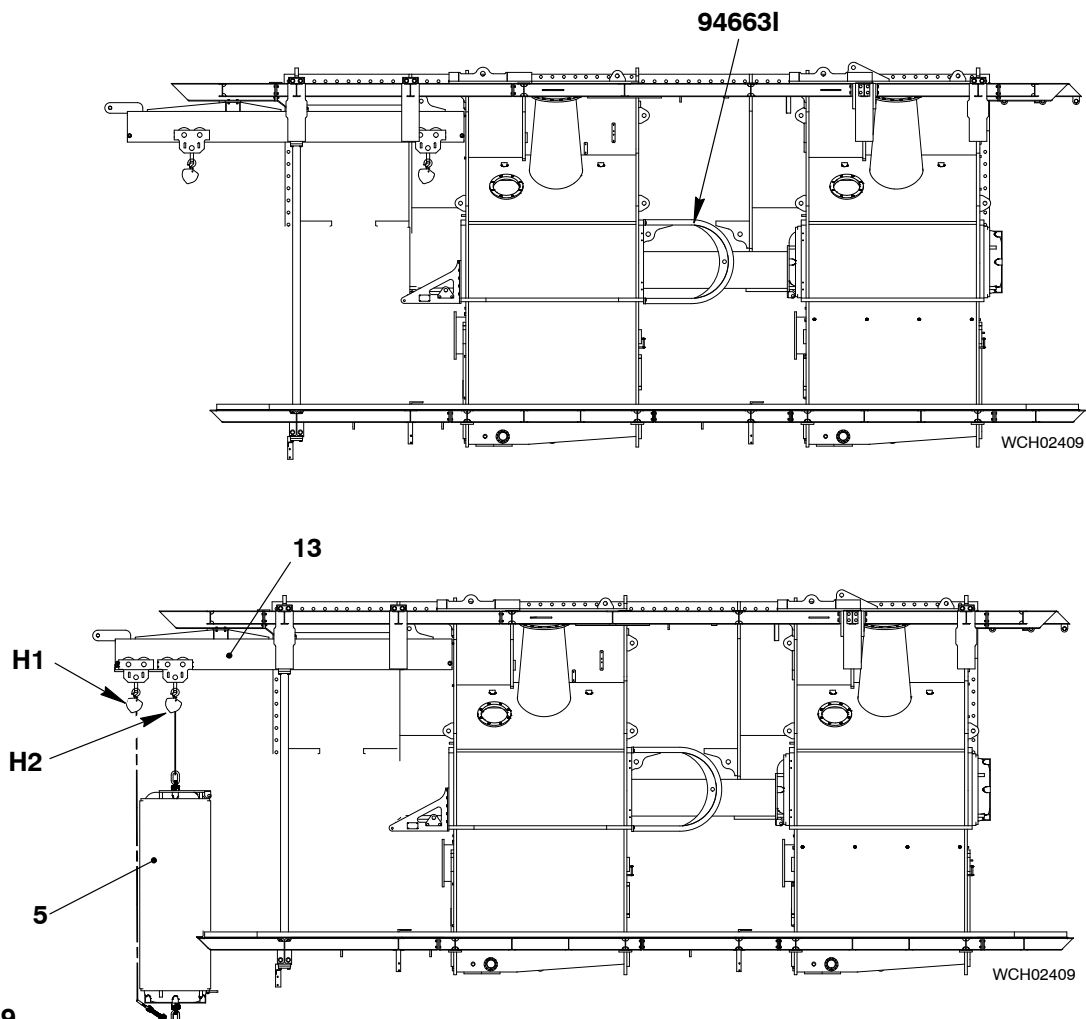

Fig. 19
- 1) Make sure that all the surfaces of the SAC (5, Fig. 19) and the related surfaces in the scavenge air receiver are clean and have no damage.
- 2) Apply a layer of silicon compound to each side of the SAC (5) and the related surfaces in the housing in the scavenge air receiver.
- 3) Apply a layer of silicon compound to the sealing surfaces of the SAC (5).